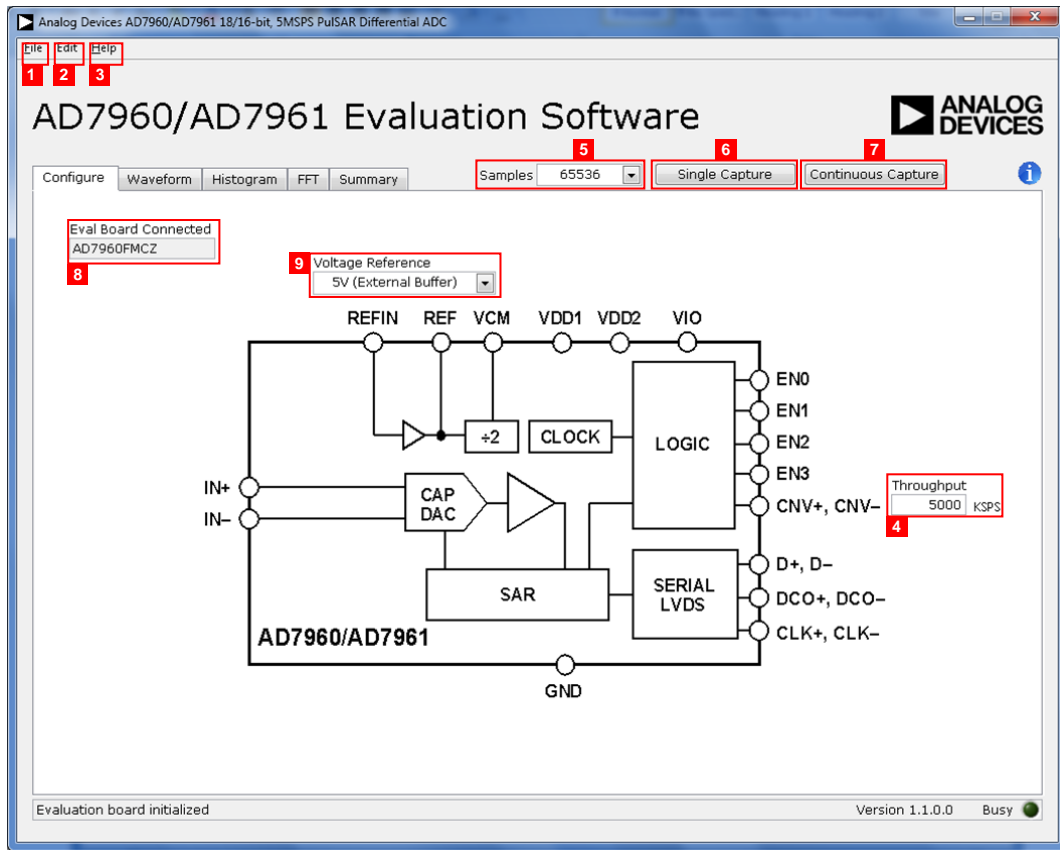

Figure 19. Setup Screen
1. From the **Start** menu, select **Programs>Analog Devices>AD7960_61 Evaluation Software**. The main window of the software then displays (see Figure 19). If the evaluation system is not connected to the USB port via the EVAL-SDP-CH1Z when the software is launched, a connectivity error displays (see Figure 17).
This section describes the full software operation and all windows that appear. When the software is launched, the panel opens and the software searches for hardware connected to the PC. The user software panel launches as shown in Figure 19. The labels listed in this section correspond to the numbered labels in Figure 19.
The File menu, labeled 1 in Figure 19, offers the choice to